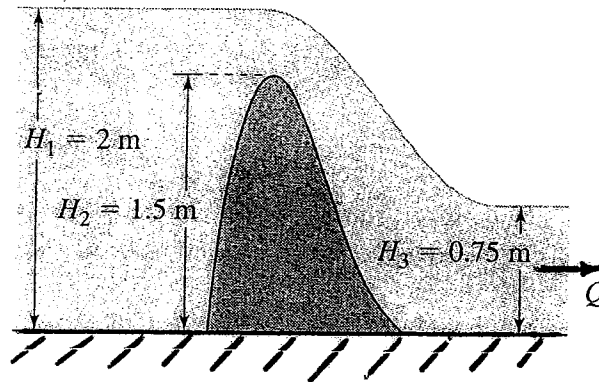

Figure 6
3. (b) The spillway shown in Figure 6 is 5 m wide. Determine the volume and mass flowrates in the channel.